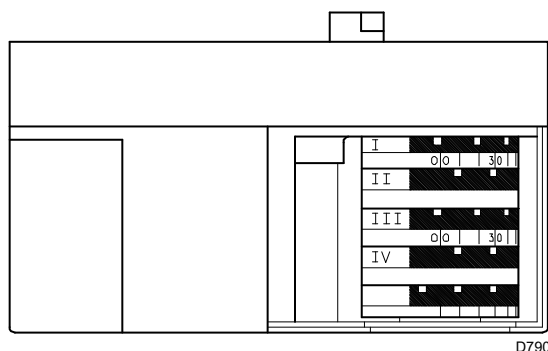

Fig. 32
- 66 s:** The servomotor rotates to the left until the contact on cam III) activates (Fig. 32).